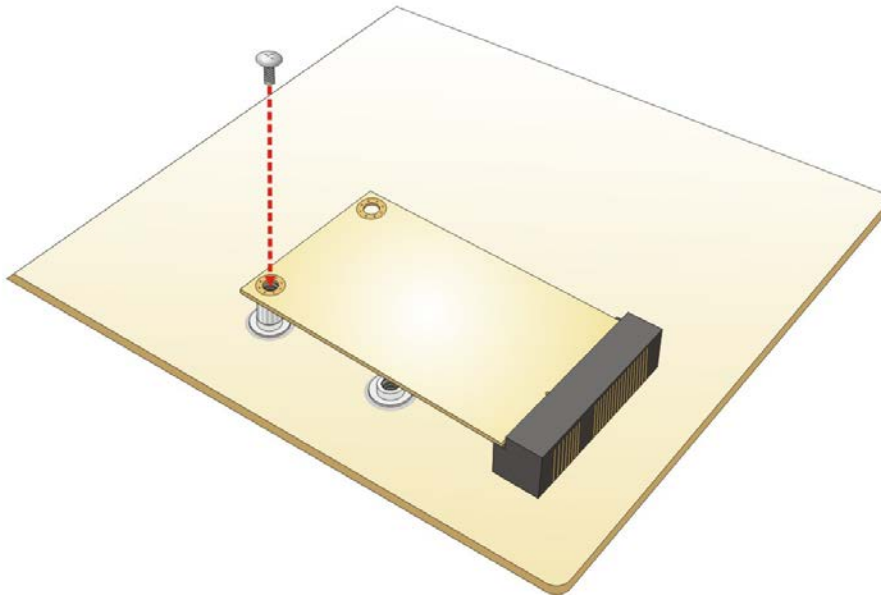

Figure 4-10: Securing the Full-size PCIe Mini Card
Step 5: Secure the full-size PCIe Mini card. Secure the full-size PCIe Mini card with the retention screw previously removed (**Figure 4-10**).